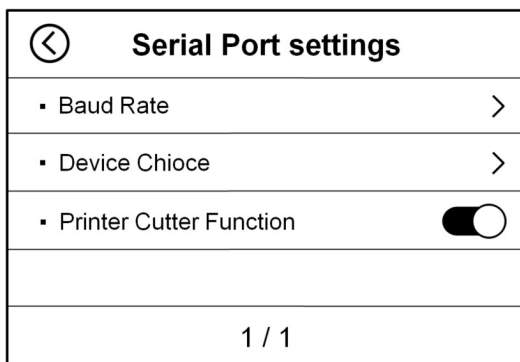
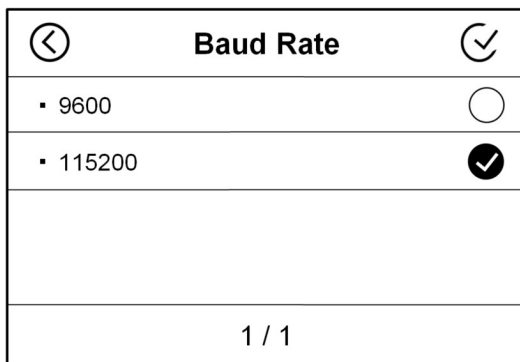

Figure 77
Figure 79
2) In the interface of Figure 58, touch the second item "Serial Port" to enter the "Serial Port settings" interface shown in Figure 77 below.
3) In the interface shown in Figure 77, please touch the second item "Device Choice" to enter the interface shown in Figure 78 below. Tick "✔" after the "Printer" option, and then touch the "✔" key in the upper right corner of the screen to save. After saving, the machine interface automatically jumps back to the interface shown in Figure 77.
4) In the interface of Figure 77, touch the first item "Baud Rate" to enter the baud rate setting interface, as shown in Figure 79 below. Please remember the baud rate value displayed in the interface of Figure 79 below. (the default baud rate value of the machine is 115200)